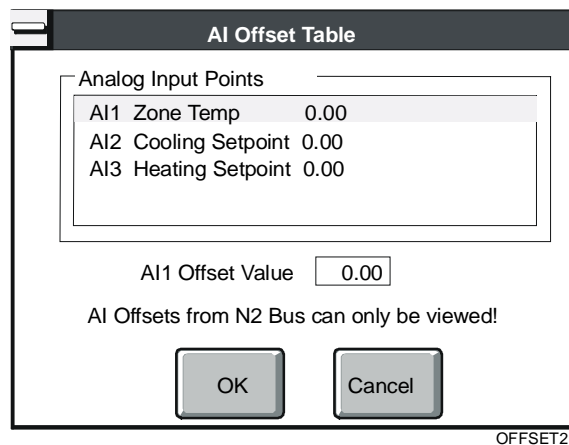

Figure 5-6: AI Offset Table Window
1. On the Commission menu, click AI Offset Table. The AI Offset Table window appears (Figure 5-6).